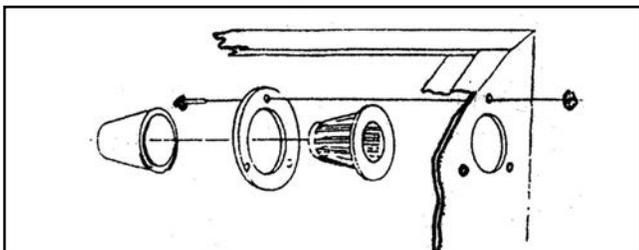

Figure 3. Filter installation.
3. Install filter with screws and nuts (Figure 3).